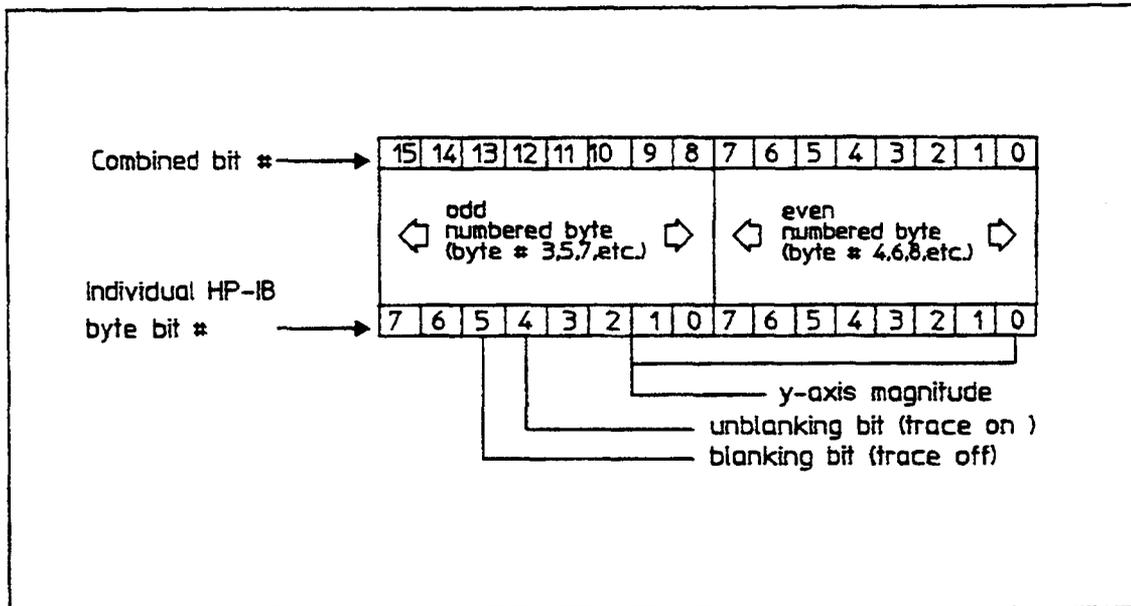

Figure 3-9-2. Display Trace Word In Binary Format.
**BI – B trace in.** This command allows the B trace to be generated from the HP-IB. The B trace consists of 1002, 16 bit data words which represent the Y-axis magnitude for each X-axis location. The display is generated by connecting each Y-axis magnitude in adjacent X-axis locations with a straight line. Each of the 16 bit data words are generated from the HP-IB by combining bytes in pairs. These pairs are received and combined as shown in Figure 3-9-2.